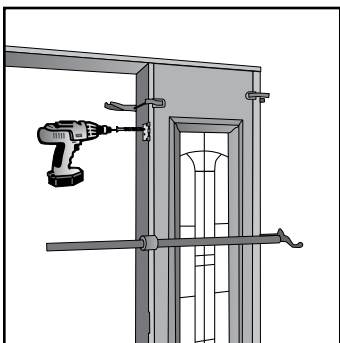

Fig. 18
- G. Anchor hinge side mull post to sidelight using two 2" brass screws through hinge (**Fig. 18**).